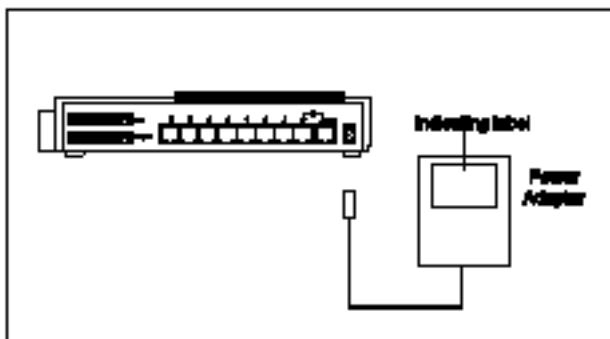

Figure 2-3 Connect to the power adapter
2.1.3 Verify it's a 5V,3A power adapter by looking at the indicating label. If the adapter is correct, please stretch the cable and plug the cord into the power jack of the hub, as shown in *Figure 2-3*.